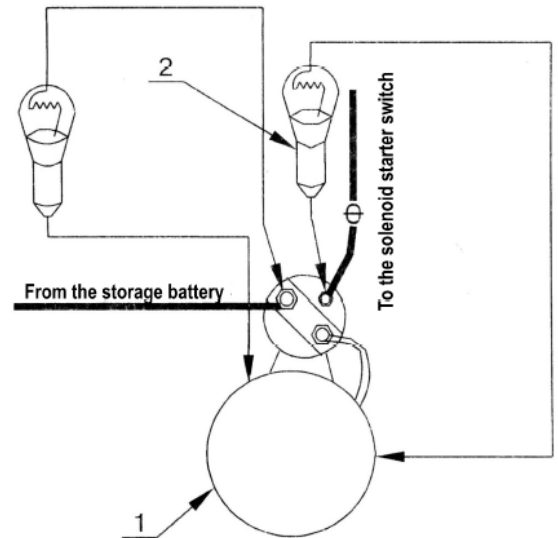

Fig. 6. Checking the operability of the starter “M3”: 1 – starter; 2 – test lamp.
- 1) to the power terminal of the starter (Fig. 6);
- 2) to the terminal of the solenoid starter switch (having turned the starter switch key to the second position) (Fig. 6);